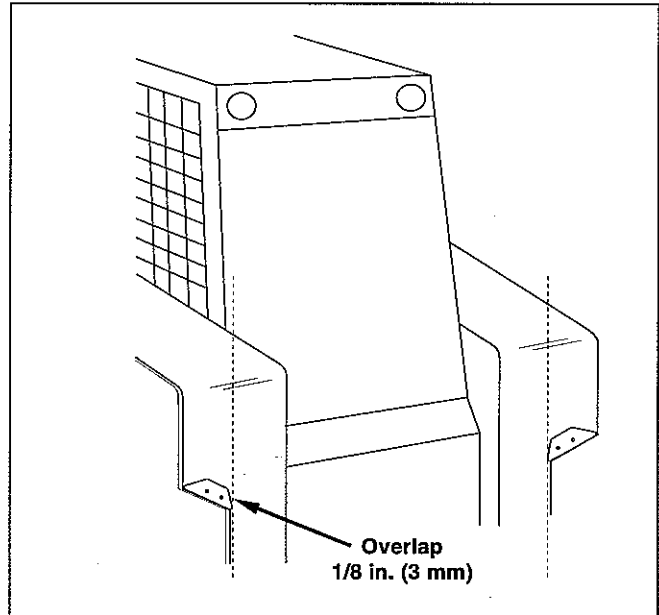

figure 4
3. Place the appropriate template on the prime mover arm, aligning the outline of the template and the angled edge of the loader arm. Make sure the template extends 1/8 in. (3 mm) past the imaginary line formed by the vertical edge of the prime mover arm (figure 4).